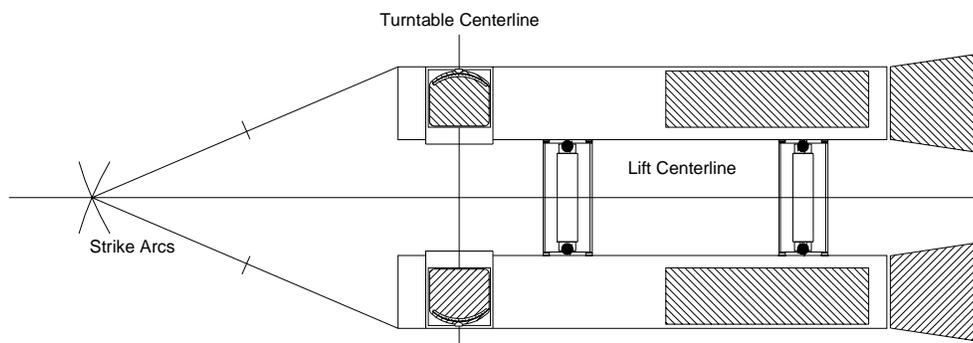

FIGURE 1. DETERMINE CENTERLINES
2. Find the *lift centerline*. Measure between runways front and rear and mark midpoints at both locations. A mark can be made forward of the lift by placing one end of a string at a spot on one side of the lift, placing a marker on the other end of a string, and scribing an arc forward of the lift across the centerline. Scribe another arc from the same spot on the opposite runway. This arc must intersect the first arc. This intersection of arcs is the projected lift centerline. Snap a chalk line between the marks, and extend this line at least 114 inches to the front of the *turntable centerline* (see Step 3), or to the shop wall if closer. This is the *lift centerline*. See **Figure 1**.
3. To determine the *turntable centerline*, raise the lift to a predetermined alignment height (step 1). Drop a plumb bob from the center of each turntable. Mark the floor at the point of the plumb bob next to each turntable. Snap a chalk line through the marks. This establishes the *turntable centerline*. See **Figure 1**.